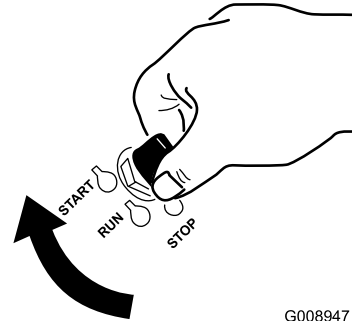

Figure 22
1. Turn the key to the START position (Figure 22).